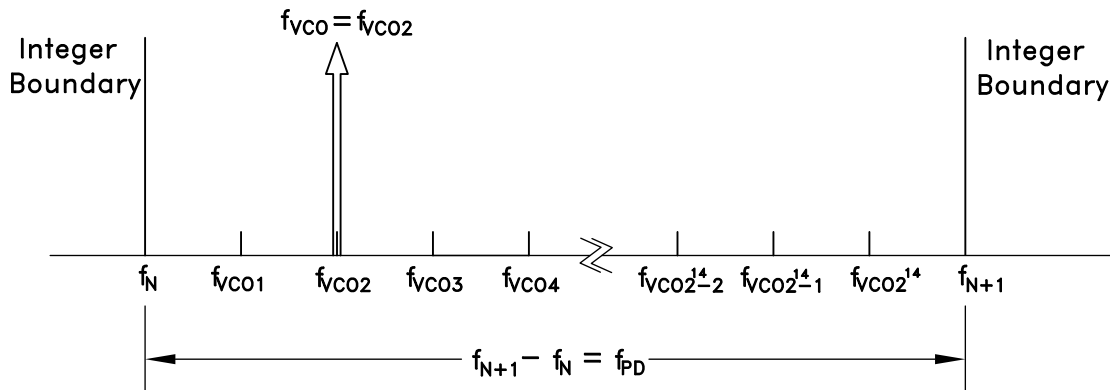

Figure 71. Exact Frequency Tuning
and f_{VCOk} are the channel step frequencies where $0 < k < 2^{24}-1$, As shown in Figure 71.
Some fractional PLLs are able to achieve this by adjusting (shortening) the length of the Phase Accumulator (the denominator or the modulus of the Delta-Sigma modulator) so that the Delta-Sigma modulator phase accumulator repeats at an exact period related to the interval frequency ($f_{VCOk} - f_{VCO(k-1)}$) in Figure 71. Consequently, the shortened accumulator results in more frequent repeating patterns and as a result often leads to spurious emissions at multiples of the repeating pattern period, or at harmonic frequencies of $f_{VCOk} - f_{VCO(k-1)}$. For example, in some applications, these intervals might represent the spacing between radio channels, and the spurious would occur at multiples of the channel spacing.
If it is desirable to have multiple, equally spaced, exact frequency channels that fall within the same interval (ie. $f_N \leq f_{VCOk} < f_{N+1}$) where f_{VCOk} is shown in Figure 71 and $1 \leq k \leq 2^{24}$, it is possible to maintain the same integer-N (Reg 03h) and exact frequency register (Reg 0Ch) settings and only update the fractional register (Reg 04h) setting. The Exact Frequency Channel Mode is possible if EQ 16 is satisfied for at least two equally spaced adjacent frequency channels, i.e. the channel step size.
To configure the HMC1190ALP6NE for Exact Frequency Channel Mode, initially and only at the beginning, integer (Reg 03h) and exact frequency (Reg 0Ch) registers need to be programmed for the smallest f_{VCO} frequency (f_{VCO1} in Figure 71), as follows:
1. Calculate and program the integer register setting $\text{Reg 03h} = N_{INT} = \text{floor}(f_{VCO1}/f_{PD})$, where f_{VCO1} is shown in Figure 71 and corresponds to minimum channel VCO frequency. Then the lower integer boundary frequency is given by $f_N = N_{INT} \cdot f_{PD}$.
$\text{Reg04h} = N_{FRAC} = \text{ceil} \left\lceil \frac{2^{24} (f_{VCOk} - f_N)}{f_{PD}} \right\rceil$ where $f_N = \text{floor}(f_{VCO1}/f_{PD})$, and f_{VCO1} , as shown in Figure 71, represents the smallest channel VCO frequency that is greater than f_N .
4. To change from channel 1 ($f_{VCO1} = 2800.2$ MHz) to channel 2 ($f_{VCO2} = 2800.3$ MHz), only Reg 04h needs to be programmed, as long as all of the desired exact frequencies f_{VCOk} (Figure 71) fall between the same integer-N boundaries ($f_N < f_{VCOk} < f_{N+1}$). In that case